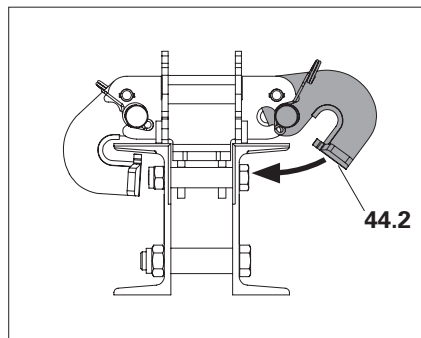

Fig. D2.05
2. Fold guiding skid (44.2) forwards. (Fig. D2.05 + D2.05a)